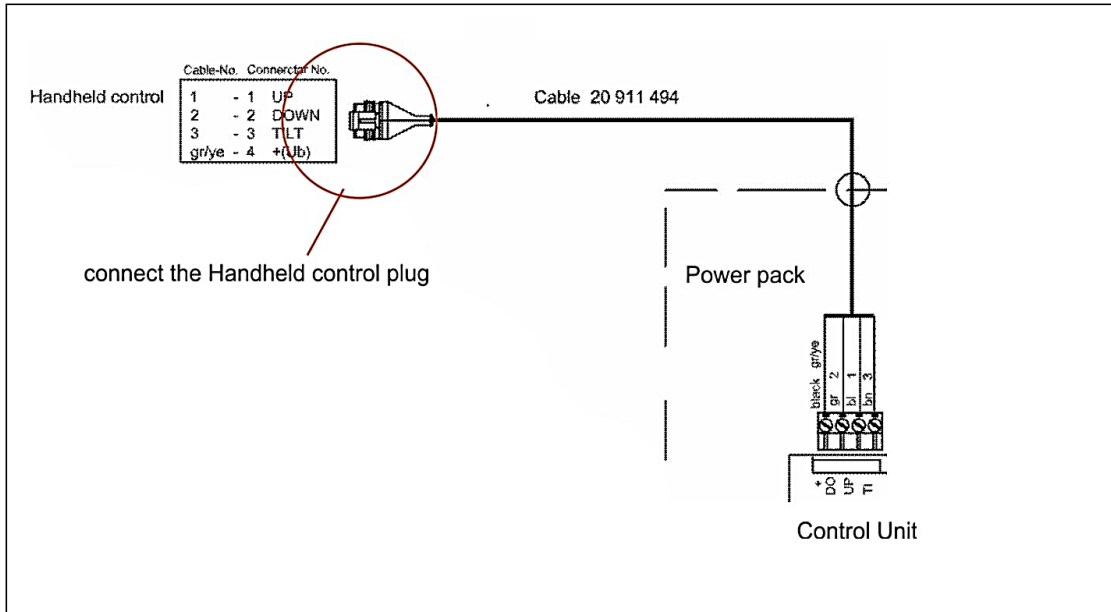

Figure 23
- Connect the Handheld control plug, with the one coming from the Control Unit (in Power pack), see wiring diagram cable No. 20 911 494 or refer to Fig. 23.